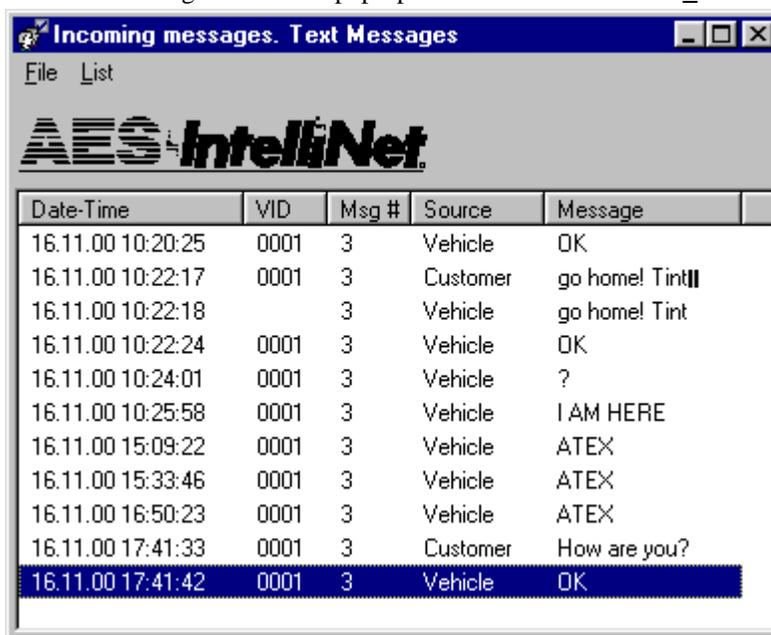

Fig. 47 Incoming messages window - text messages
- The *Text messages* command opens the window shown in Fig. 47. A group of alarm messages is displayed in this window only. This window has a menu, an incoming messages list and a list pop-up menu.